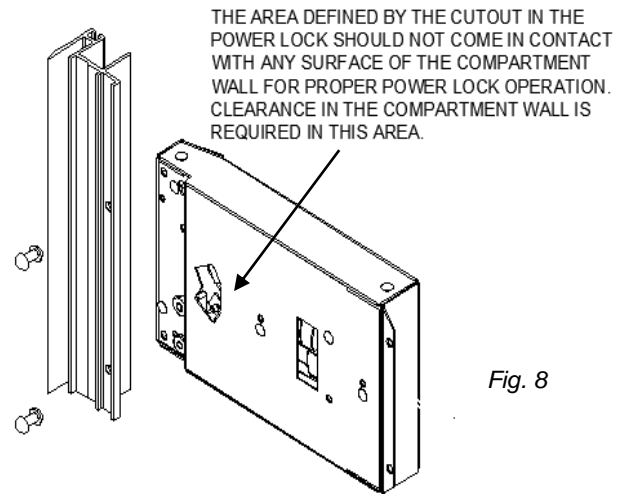

Fig. 8
- Mount the power lock to the track if not factory installed. The track will be pre-drilled and slotted for the power lock. Mount the lock with 3/16" pop rivets (Fig. 8). Recessed track will have mounting brackets for the power lock to be mounted to.